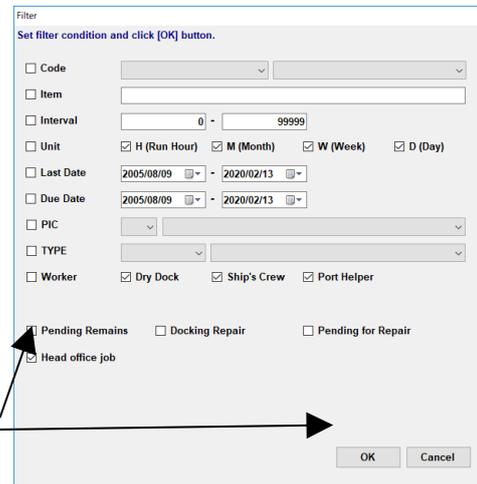

Fig.7-2 Filter screen
- (3) Select “Filter” button to displayed “Filter screen” (Fig.7-2)
- (4) Put a check mark on “Head office job” and select “OK” button to extract only the head office job.
- (5) Select check box of maintenance work item to be reported.